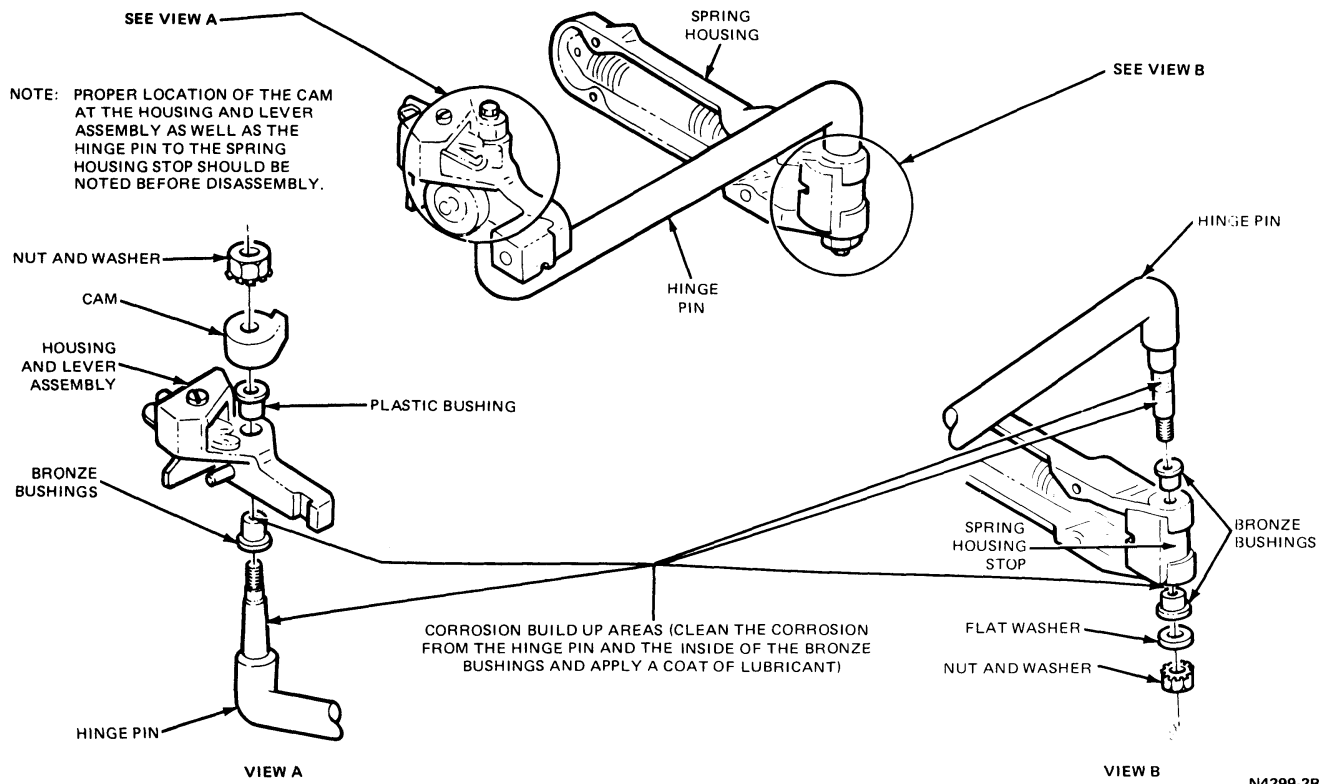

FIG. 7 Hinge Disassembled
5. Slide the hinge assembly to a position in line with the loading notches located in the center track and remove the hinge assembly. A disassembled view is shown in Fig. 7.
The back door latch strikers are adjustable inboard or outboard to obtain a flush fit of the doors with the body. To adjust the striker(s), loosen the two attaching screws and move the striker(s) as necessary to obtain the proper door fit. Tighten the two attaching screws. The striker should be shimmed to get the required clearance (Fig. 7). **(Do not use more than two shims.)**